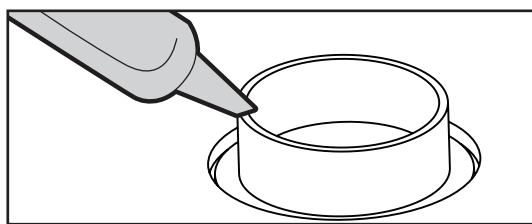

FIGURE 3. Apply construction adhesive to all feet.
- b. Apply construction adhesive to all feet (and shims if needed) (Fig 3 & 4).